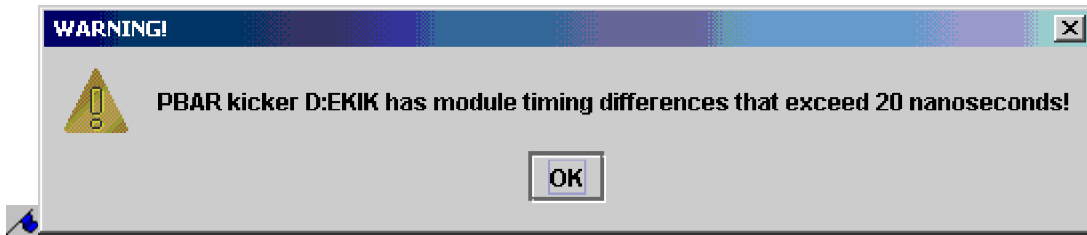

Figure 28:
6. If any tuning changes are required, you will get a popup window, as shown in Figure 28, that states that D:EKIK has timing module differences that exceed 20 nanoseconds. If all of the kicker times are within 20 nanoseconds then skip ahead to Step 10 of this procedure.